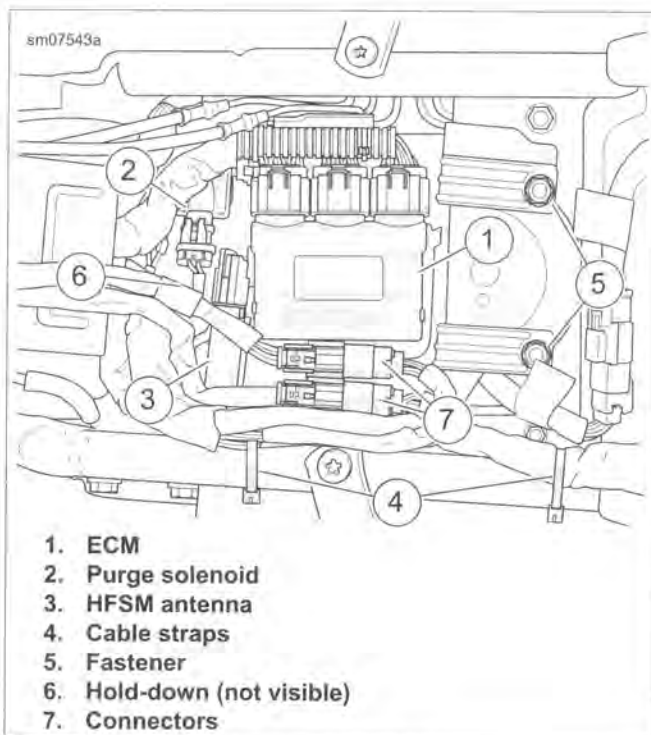

Figure 1-45. Top Caddy
2. See Figure 1-45. Release ECM (1) from top caddy. Move out of the way.
3. If present, move purge solenoid (2) forward to release from top caddy. Release HFMS antenna (3) from top caddy and move out of the way.
4. Release connectors (7) from anchors on top caddy.
5. Remove fasteners (5).
6. Cut cable straps (4). Move harnesses to allow more clearance for the top caddy.
6. See Figure 1-45. Place top caddy into position and engage latch on hold-down bracket.
7. Fasten top caddy to frame crossmember with screws (5). Tighten to 72-96 in-lbs (8.1-10.9 Nm).
8. If equipped, engage HFMS antenna (3) and purge solenoid (2) on top caddy. Verify that all other connectors and harnesses are routed below the purge solenoid mounting tongue.
9. Secure connectors (7) to anchors on top caddy.
10. Latch ECM (1) into place on top caddy.
11. Secure harnesses to frame with cable straps (4).